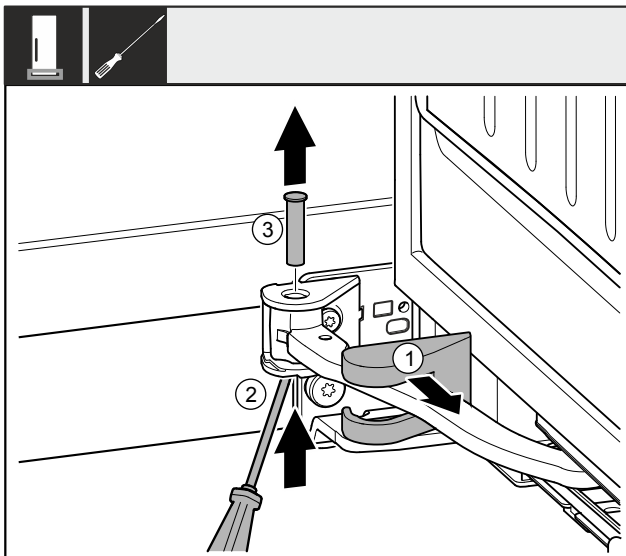

Fig. 8
- Pull off the swap bearing block cover Fig. 8 (1) and slide it along the joint.
- Use the screwdriver to lift the pin Fig. 8 (2) from the bottom.
- Pull the pin Fig. 8 (3) out from the top.